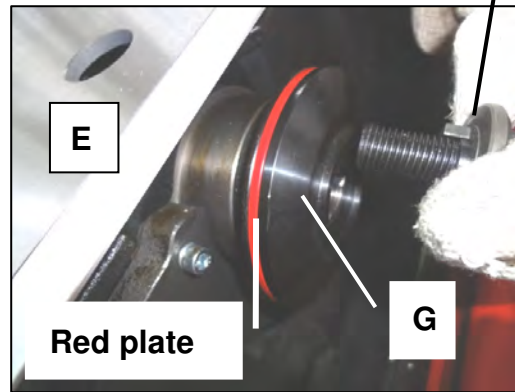

Figure 3-8.2b
6. Press the button in hole **E** (Fig. 3-8.2b) with thumb for locking the spindle, at the same time, use wrench to loose the screws **F** & washer **I** (Fig. 3-8.2b), remove flange **G** (Fig.3-8.2b) then remove the **red plate** (Fig. 3-8.2b)
Note2: Before fitting the saw blade, make sure that the flange **G** (Fig.3-8.2b) is clean to avoid vibrations when the saw blade is rotating
7. Fit the saw blade and flange **G** (Fig.3-8.2b) then press button in **hole E** (Fig. 3-8.3a) with thumb for locking the spindle, at the same time, tight washer **I** & screw **J** (Fig. 3-8.3) to fix the saw blade.